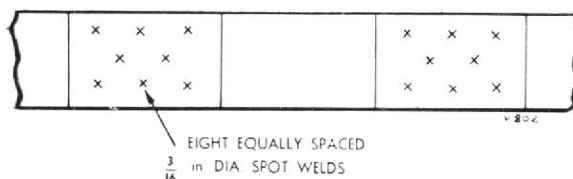

Fig. 6. Details for spot welding of spacer-strip.
5. Using a resistance welding machine, spotweld each of the mating surfaces of the spacer-strip to the nozzle with eight $\frac{3}{16}$ inch diameter spots, spaced as shown on Fig. 6.